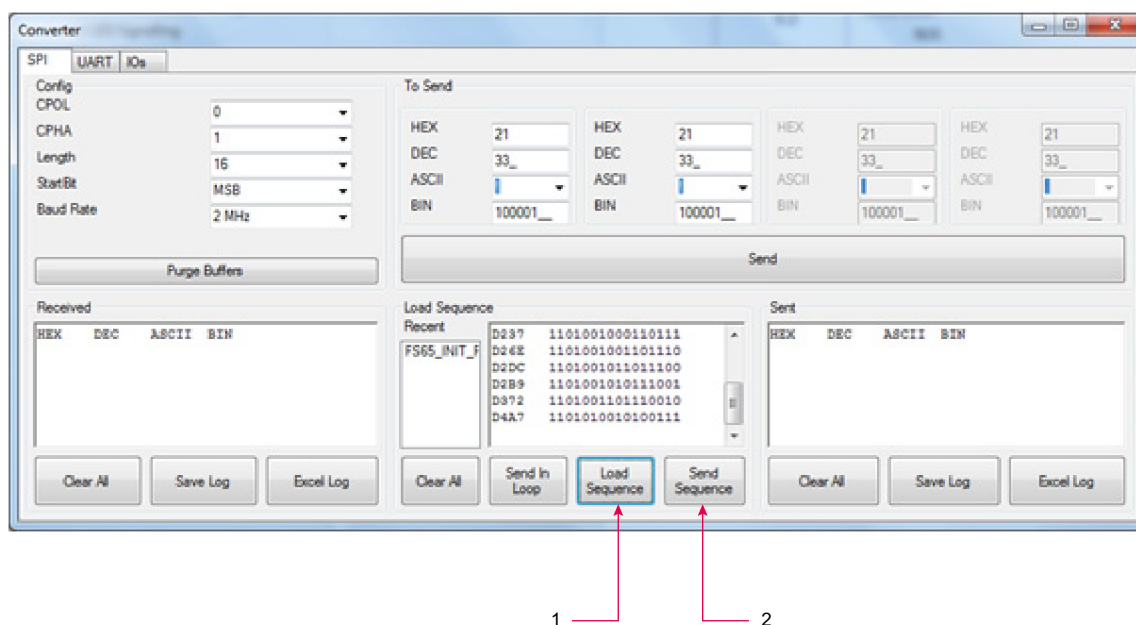

Figure 20. Loading the register configuration example file
5. Launch FlexGUI. When FlexGUI opens, click the **load sequence** button to load the register configuration file (see Figure 20).
- Send the register configuration file to the FS45xx/FS65xx by clicking the **send sequence** button (see Figure 20).
- To use the register configuration file, open FlexGUI, then load the register configuration file and send it to the evaluation board (see Figure 20).